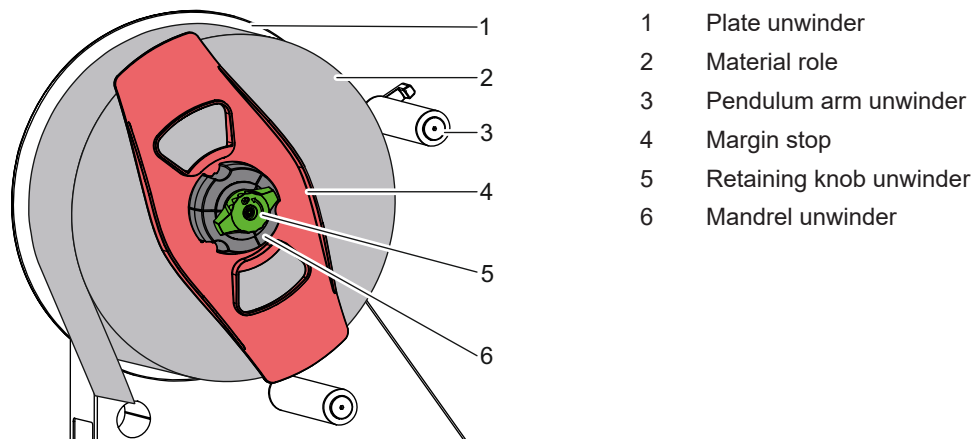

Figure 72 Inserting a material role, example: paper feed outside wound
- ▶ Press down the pendulum arm on the unwinder (▶Figure 72/3).